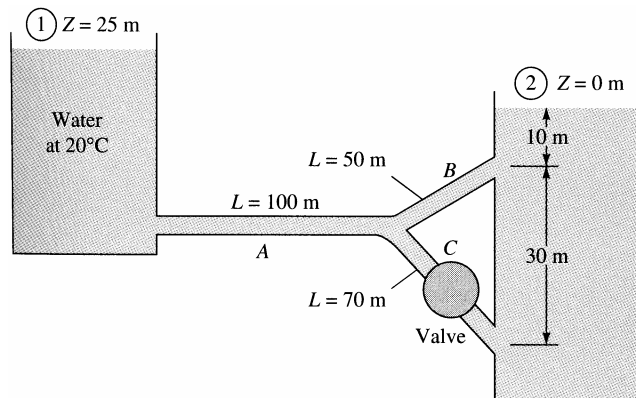

Fig. P6.115
6.115 In Fig. P6.115 all pipes are 8-cm-diameter cast iron. Determine the flow rate from reservoir (1) if valve C is (a) closed; and (b) open, with $K_{valve} = 0.5$.